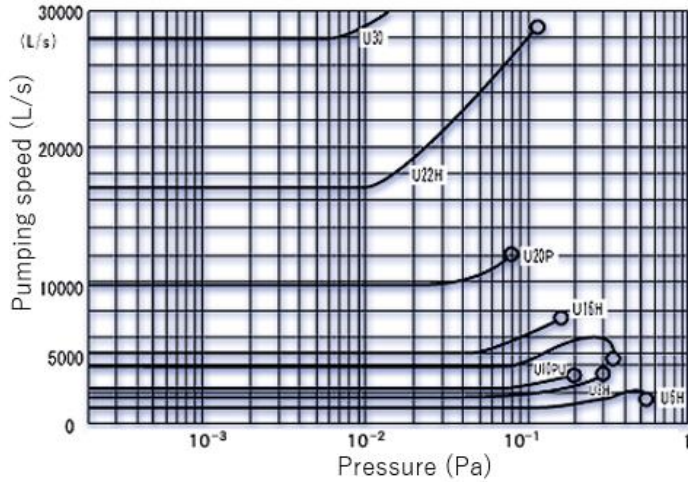

Figure 1. CRYO-U Pumping Speed for Nitrogen
A cryopump is vacuum pump that traps gases and vapors by condensing them on a cold surface. For efficient evacuation under ultra-high vacuum, the vapor pressure for condensation, or the equilibrium pressure for adsorption must be less than  $10^{-8}$  Pa. **Figure 1** shows vapor pressures of different gases.
As you see in Fig.1, the vapor pressure of water vapor becomes below  $10^{-8}$  Pa at temperature of below 130K, and thus water vapor is pumped as a result of condensation on the 80K baffle and 80K shield. The next group of gases, nitrogen, oxygen, argon, and other gases of similar molecular weight are pumped at the exposed surface of 15K cryopanel(1) at the second stage, which is kept below 20K. The third group, mainly hydrogen, helium, and neon will not condense at 20K and will not be pumped efficiently by the metal surface because the equilibrium vapor pressure for cryosorption will be too high. To improve this situation, cryopumps have adsorbent of porous materials such as charcoal on the 2nd stage cryoarrays. The adsorbent is bonded to the inner surface of the 15K cryopanel(1) to prevent it from being covered with condensable gases. Outside surface of 80K shield, 80K baffle, and 15K cryopanel(1) are specular finished in order to reflect radiant heat from room temperature. The inner surface of 80K shield is blackened to reduce the radiation heat transfer to the 15K cryopanel attached to the 2nd stage. In order that a cryopump to operate properly, both 80K shield and 80K baffle should be kept below 130K and 15K cryopanel to be kept below 20K.